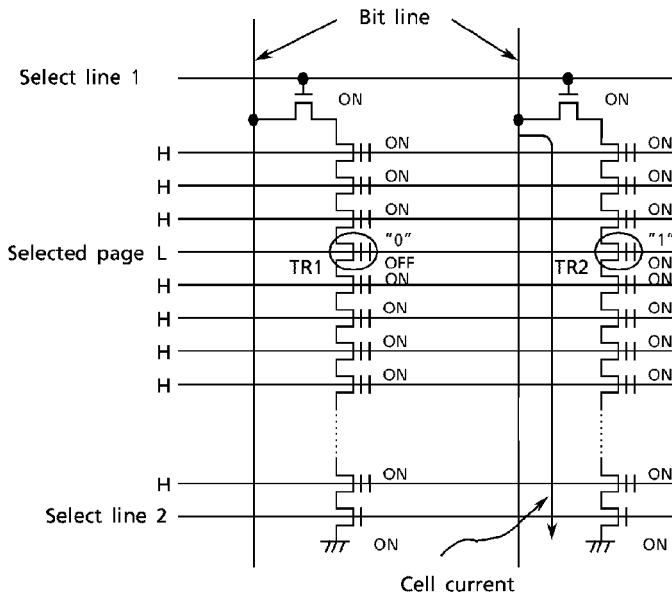

Figure 20. TC58V16 Read Device Physics
Figure 20 shows memory cell level details of the Read operation mechanism:
- (1) A high voltage is applied to Select lines 1 and 2 in the block which includes the selected page, so that the 16 NAND memory cells are connected to the Bit line and ground.
- (2) 0 volts is applied to the control gates of the selected page and a high level voltage is applied to the control gates of the unselected pages.
- (3) In Figure 20, transistor TR2 with data "1" turns on, transistor TR1 with data "0" turns off, and all other unselected transistors turn on.
- (4) The precharged bit line tied to TR2 is discharged through TR2 as cell current flows to ground, while the precharged bit line tied to TR1 remains high because current does not flow. The sense amplifiers tied to the bit lines thus sense the voltage levels as "1" and "0" respectively.